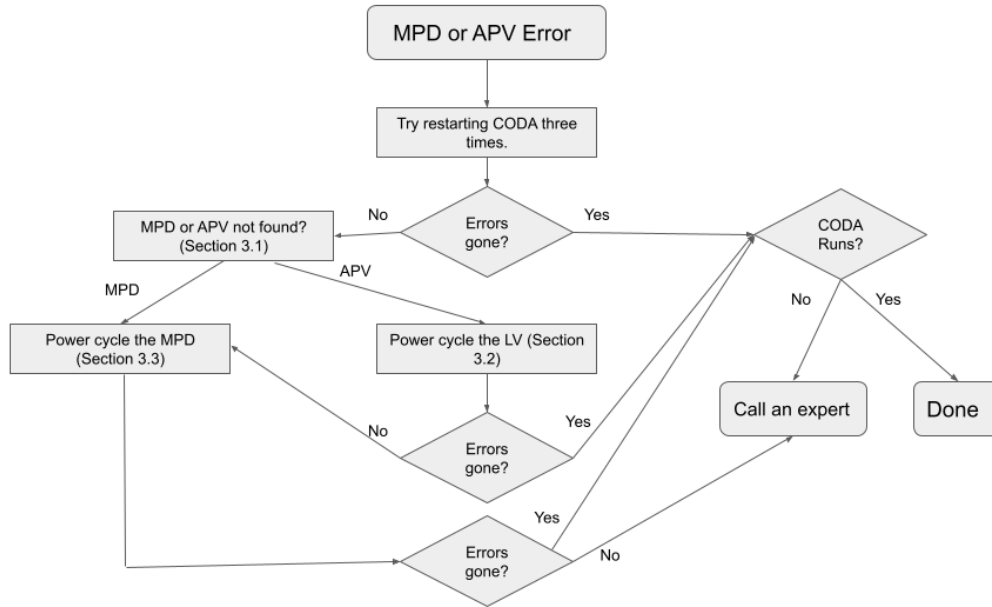

Figure 1: Troubleshoot flowchart for shifters when errors appear in the DAQ.
- Follow chart in figure 1
The errors in Fig. 3 show some issues with certain fibers (where the print out says "MPD", it is actually referring to the fiber number described in Table 2). Errors can be with MPDs ("MPD Not Found") or APVs ("APV Not Found"). There should be no errors in this text block in order to proceed with starting the run. For any errors try to reset, download, and prestart CODA again at least three times. **To fix DAQ errors follow the flowchart in figure 1.**